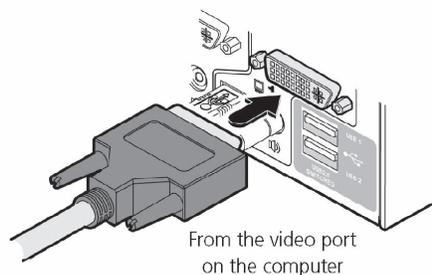

FIGURE 3-8. CONNECTING THE VIDEO OUTPUT TO THE DVI-I PORT.
4. **Single-head units:** Use a DVI cable or a VGA to DVI-I adapter cable (if using analog signals) to link the video output of the computer's graphic port to the DVI-I port of the required channel on the rear of the unit. See Figure 3-8.